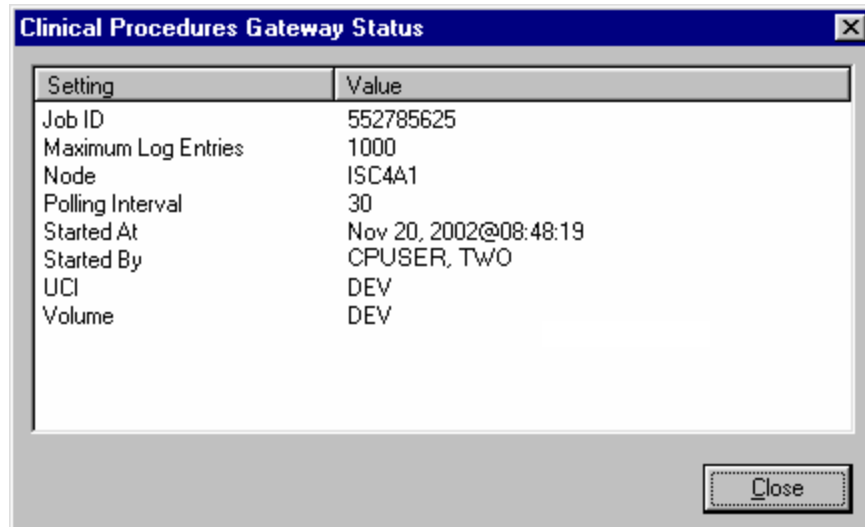

Figure 10-3
- Choose **File > Status**. The server settings are displayed, Figure 10-3.